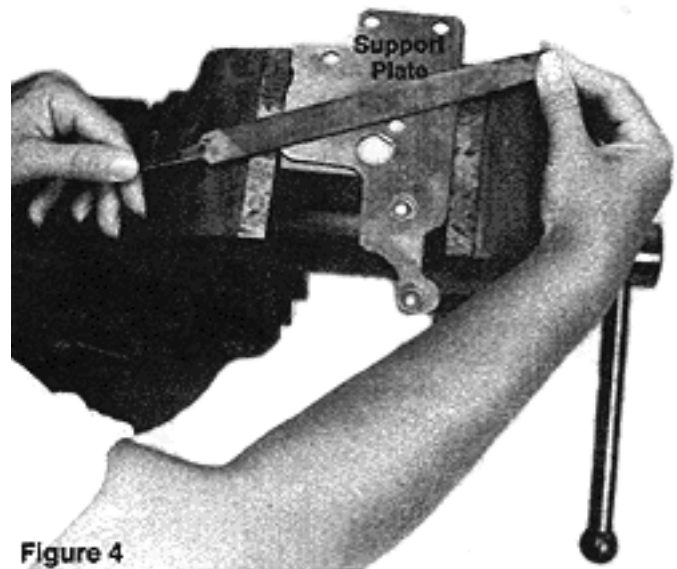

FIGURE 5
**STEP 12.** Clamp the support plate in a vise and run a file across the surface that will contact the separator plate. (See Fig. 5) You want the support plate to be flat. If your stiffener plate is bent or excessively warped, it should be replaced. (Chevrolet Part #6261195.)